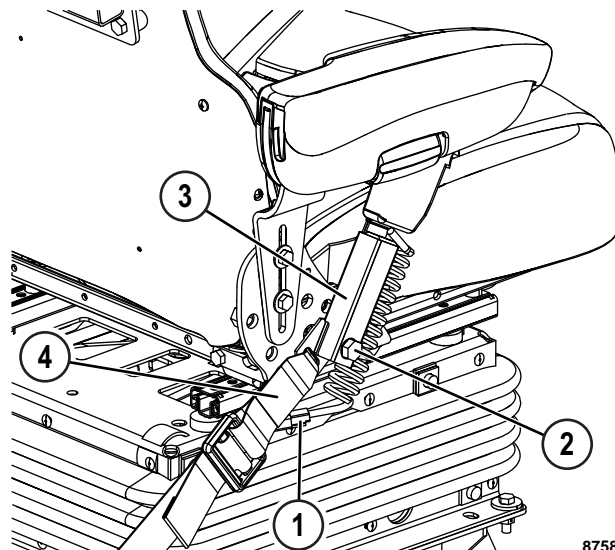

FIGURE 50-35. RH SEAT BELT MOUNT
3. Disconnect seat belt minder harness (1, Figure 50-35).
4. Remove capscrew (2) that secures seat belt latch (3) and seat tether (4) to the seat.